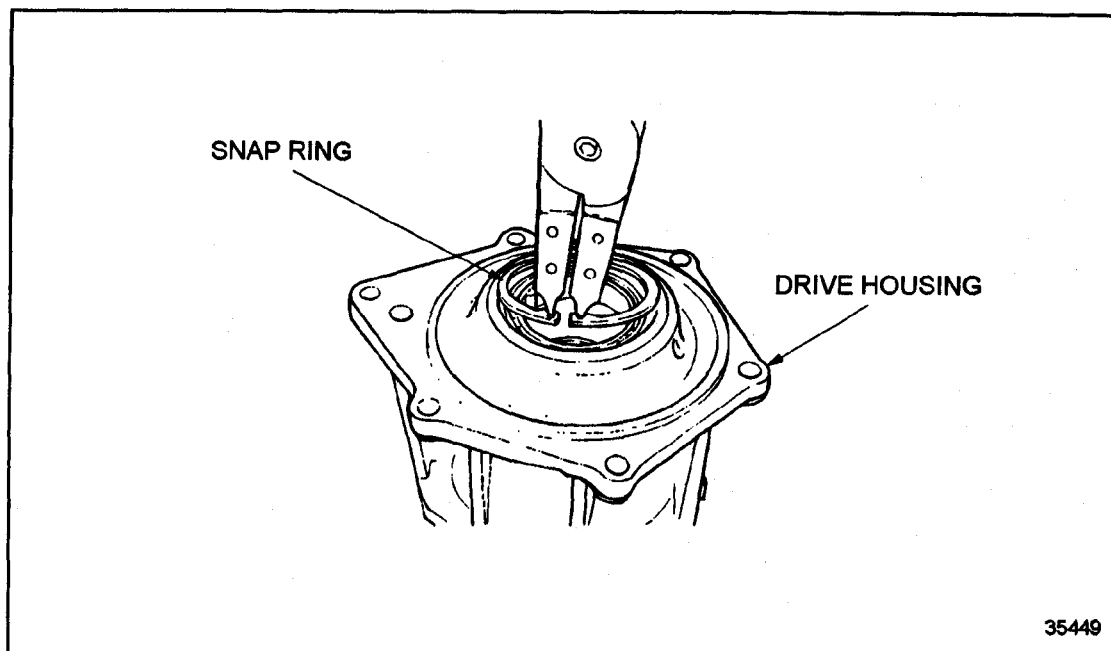

Figure 10-29 Snap Ring Installation
8. Install the snap ring retaining the ball bearing in the housing using snap ring pliers. See Figure 10-29.